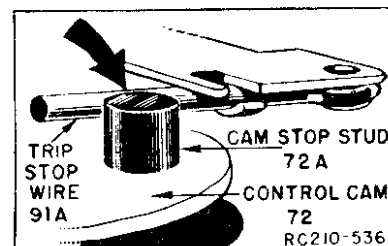

Figure 8. Positioning Trip Stop Wire.
- If the top of the trip stop wire (91A) is not level with the top of the main cam stop stud (72A) as shown in Figure 8, check to see if the trip stop wire is bent slightly. If it is, bend the wire until it is even (level) with the top of the stud.